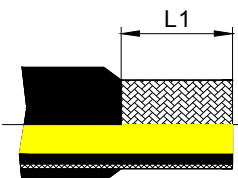

Fig.2
2. Remove the external covering of the hose according to the lenght indicated in the assembly tablesheets. Take care not to damage the exposed metallic wire (Fig. 2).